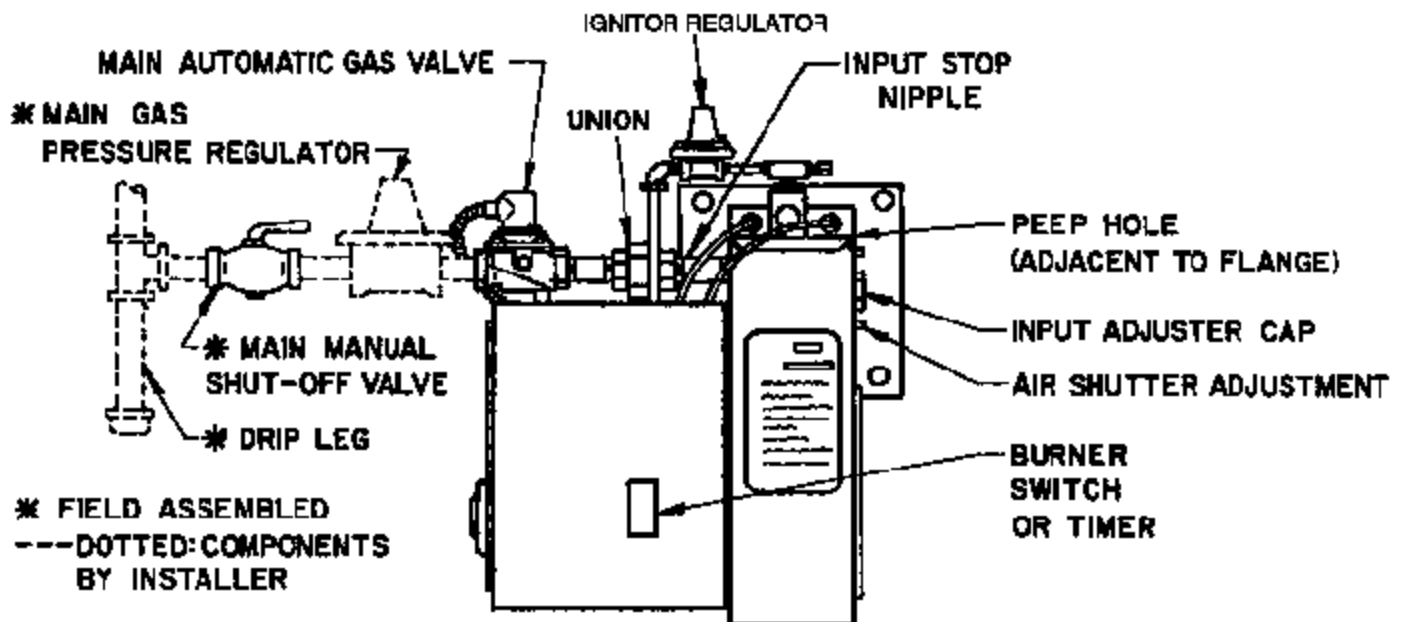

Figure 3 Control Components
☐ Use pipe joint compound resistant to liquid petroleum gases when using either NATURAL or PROPANE gas. Piping must comply with the local and national codes. If the burner piping must be rearranged because of space limitations, be sure to carry out the general configuration shown in Figure 3.
10. Remove the input adjuster cap (see Figure 3) and, with the Ignitor and Main Flame on, turn the Main Gas Input Adjusting Screw (see Figure 4) until the desired input rating is reached (refer to Table 2). Turning of adjustment screw counterclockwise increases gas flow; clockwise reduces flow. If Main Flame gas pressure requires adjustment, refer to SECTION V PIPING SUPPLY.